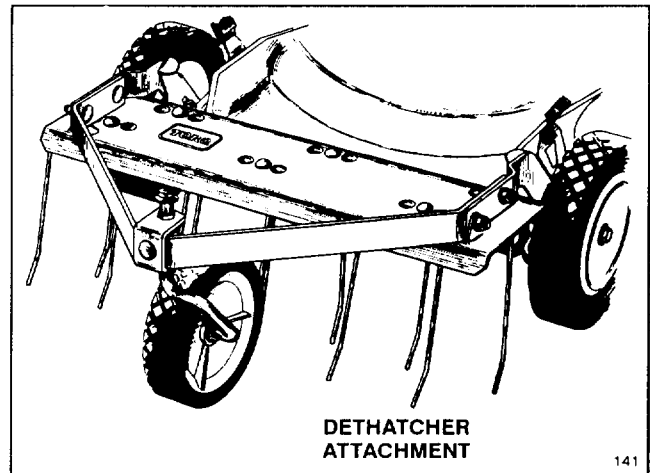

Figure 36
3. Dethatcher Kit, Model No. 59131—Installs in minutes. Front mounted for easy maneuverability. Spring tines loosen thatch for clean vacuuming into grass bag (Fig. 36) and convenient disposal.